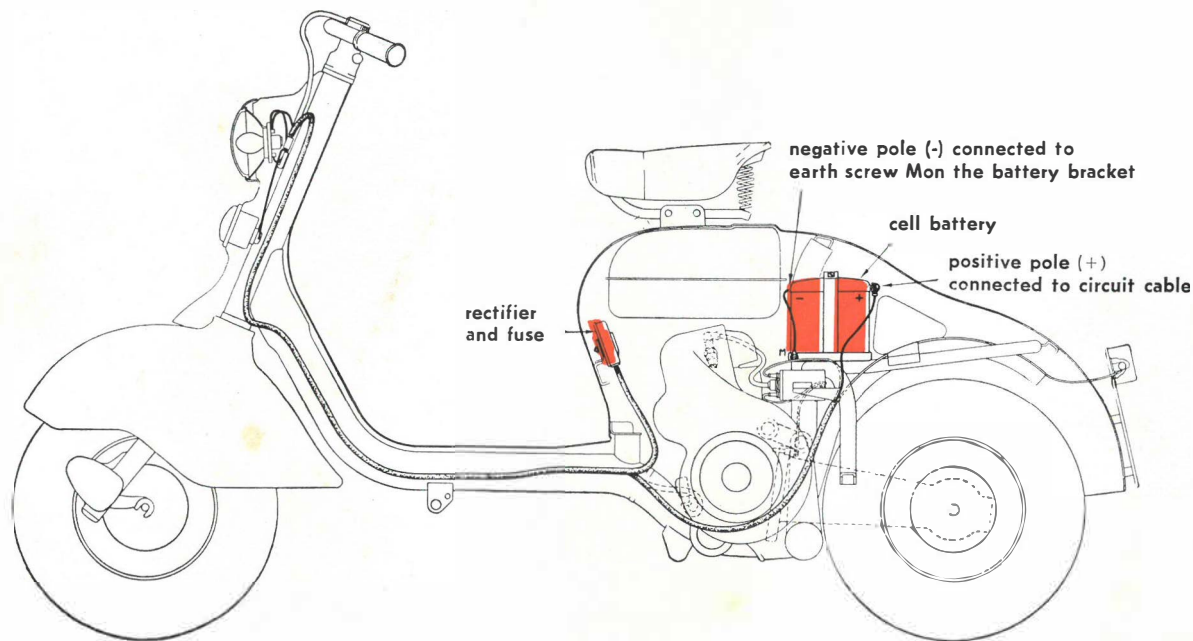

Fig. 80 - A schematic drawing showing the 150 cc. Lambretta
lights for parking purpose. Arrangement throughout the machine is shown in a schematic manner in fig. 80.
- 5) When mounting the battery on the machine care must be taken that connections are exactly performed (See fig. 80) that is: positive pole (+) to circuit wire and negative pole (—) to earth screw on the battery bracket.